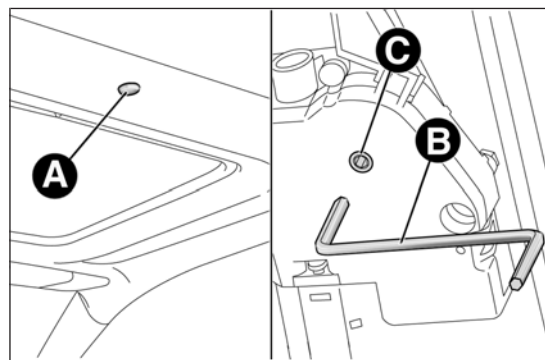

fig. 65
- remove the protective cap A fig. 65 located on the internal lining, between the two sun blinds;